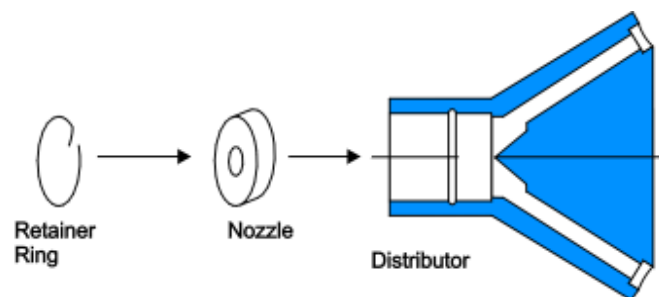
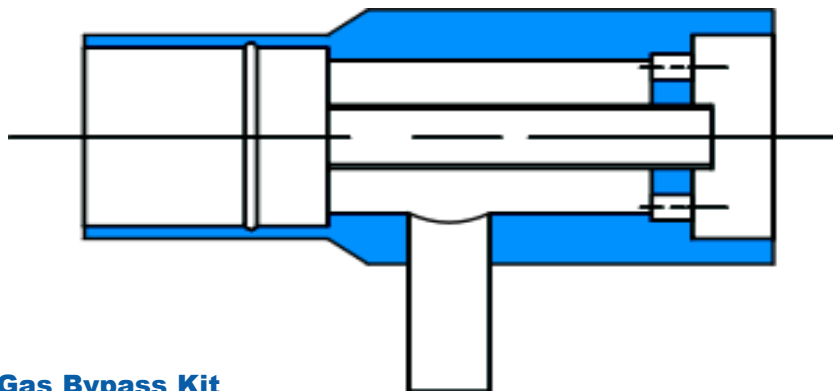

Figure 2 - Distributor
Figure3 - Hot Gas Bypass Kit
4. Inspect the refrigerant distributor and verify that the nozzle is in place. The nozzle is generally held in place by a retaining ring or it is an integral part of the distributor itself (see Figure 2 - Distributor). If a hot gas bypass kit was ordered with the coil, the nozzle will be located in it rather than the distributor (see Figure 3 - Hot Gas Bypass Kit).